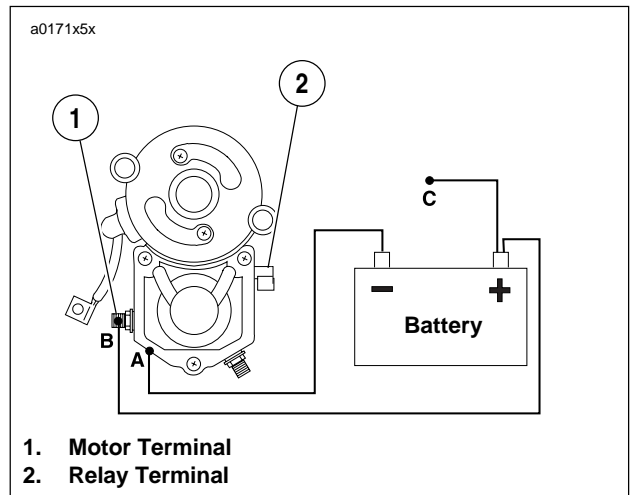

Figure 5-15. Return Test
1. See Figure 5-15. With test leads still connected in the manner specified at the end of the previous SOLENOID HOLD-IN TEST, disconnect solenoid relay terminal/positive battery post test lead (C) at either end.